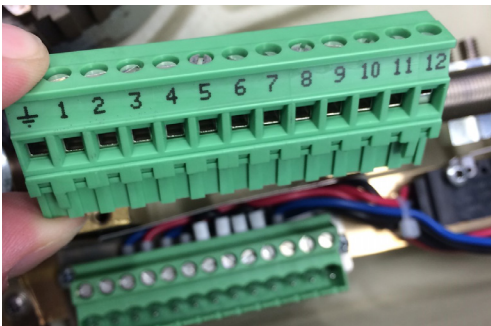

Figure 1
2. Disconnect the top part of the terminal block, see figure 1.